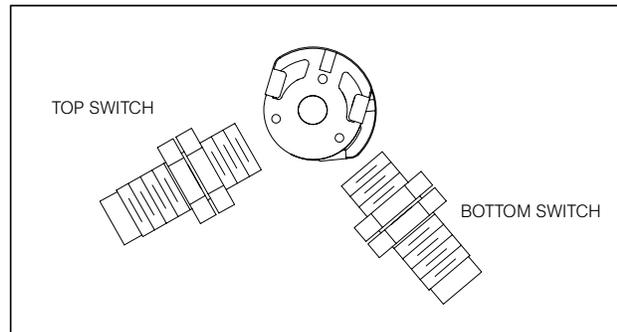

Fig. 10 Cams Set for Counter-Clockwise Rotation
I. Valve Closed to Open in counter-clockwise rotation, Fig. 10